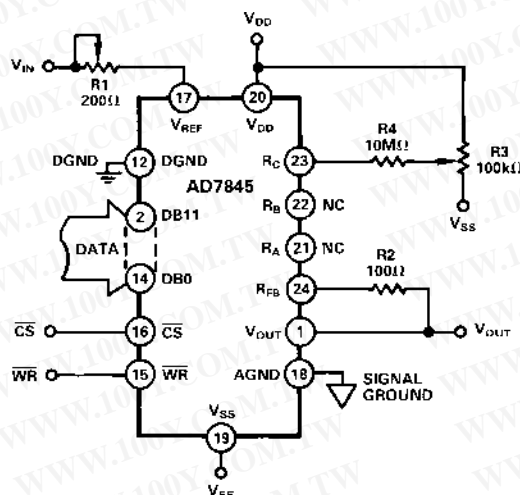

Figure 13. Unipolar Binary Operation
Gain error is a measure of the output error between an ideal DAC and the actual device output with all 1s loaded after offset error has been adjusted out. Gain error is adjustable to zero with an external potentiometer. See Figure 13.
Figure 13 shows the AD7845 connected for unipolar binary operation. When  $V_{IN}$  is an ac signal, the circuit performs 2-quadrant multiplication. The code table for Figure 13 is given in Table I.
## OFFSET AND GAIN ADJUSTMENT FOR FIGURE 13
**Temperature Coefficients:** The gain temperature coefficient of the AD7845 has a maximum value of 5 ppm/°C. This corresponds to worst case gain shift of 2 LSBs over a 100°C temperature range. When trim resistors  $R_1$  and  $R_2$  in Figure 13 are used to adjust full-scale range, the temperature coefficient of  $R_1$  and  $R_2$  must be taken into account. The offset temperature coefficient is 5 ppm of FSR/°C maximum. This corresponds to a worst case offset shift of 2 LSBs over a 100°C temperature range.